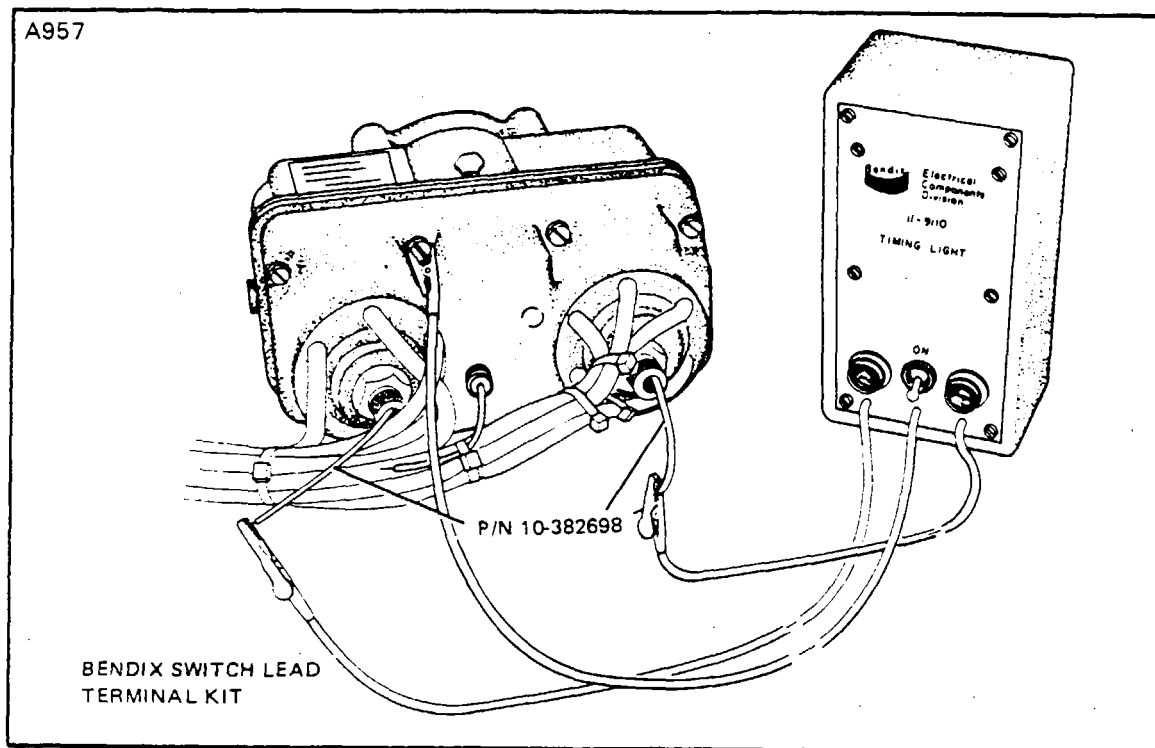

Figure 7A-29. Timing Light Connected to Magneto
It is recommended that short adapter leads be fabricated to facilitate connecting the timing light unit to the switch outlet terminals of the cover. (Refer to Figure 7A-29.)
d. The magneto incorporates a built-in pointer and a degree wheel with sufficient reference to assist the mechanic in magneto timing procedures. Printed upon the rotating magnet are marks to indicate magneto neutral and magneto "E" gap (8°). (Refer to Figure 7A-30.) Also included are retard angle references of 10, 15, 20 and 25 degrees. These marks are set up for either clockwise (R) or counterclockwise (L) rotation of the magneto as viewed from the magneto drive end. The timing tooth of each large distributor gear is marked with red paint. (Refer to Figure 7A-31.)